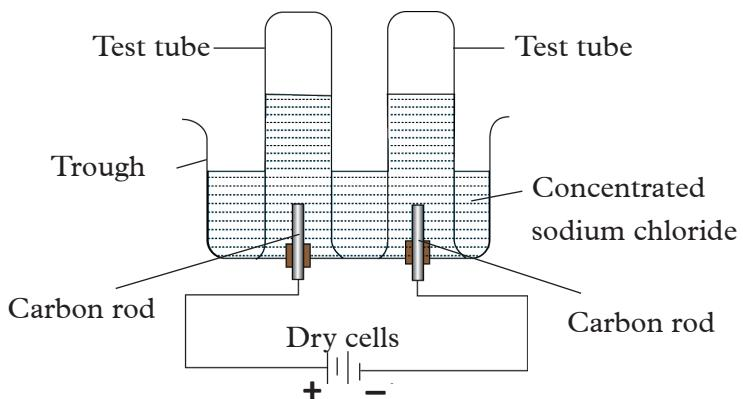

Fig. 8.5: Electrolysis of brine
- Set up the apparatus as shown in Fig. 8.5.